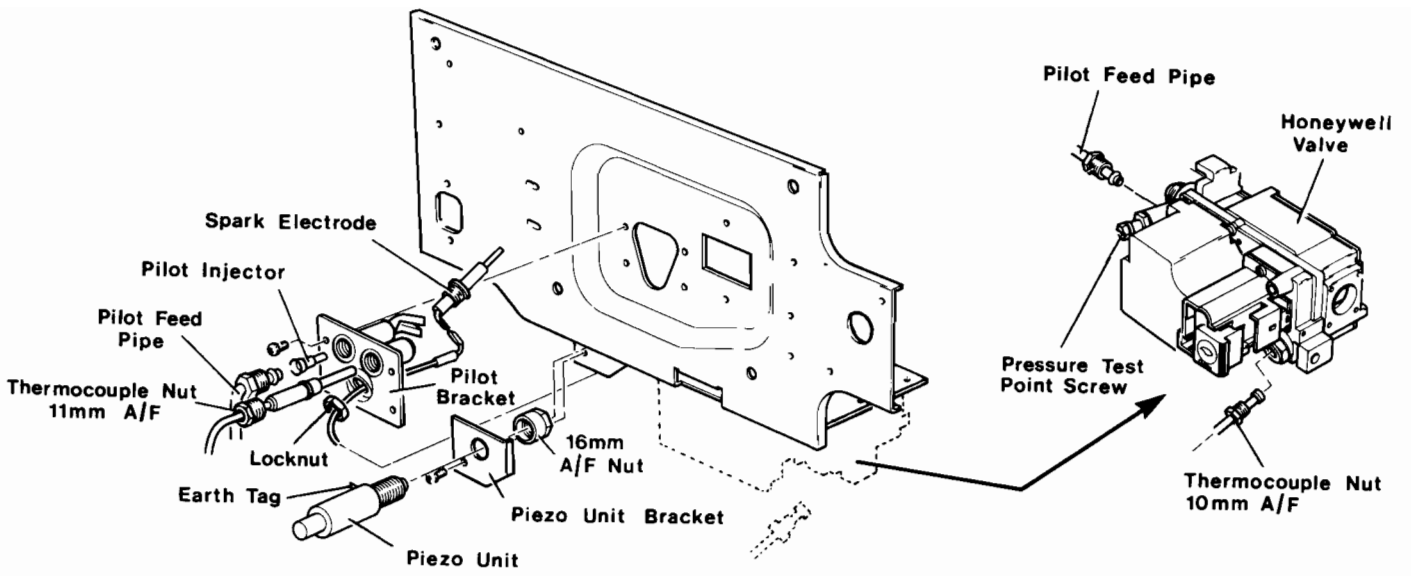

Fig. 17.
21. Remove the pressure test point screw, connect a pressure gauge and operate the burner by turning the thermostat knob to its highest setting (Fig. 17).
### Thermocouple (Fig. 17)
### Spark Electrode (Fig. 17)
### Piezo Unit (Fig. 17)
- (ii) Remove two screws securing insulation carrier to panel controls (Fig. 17).